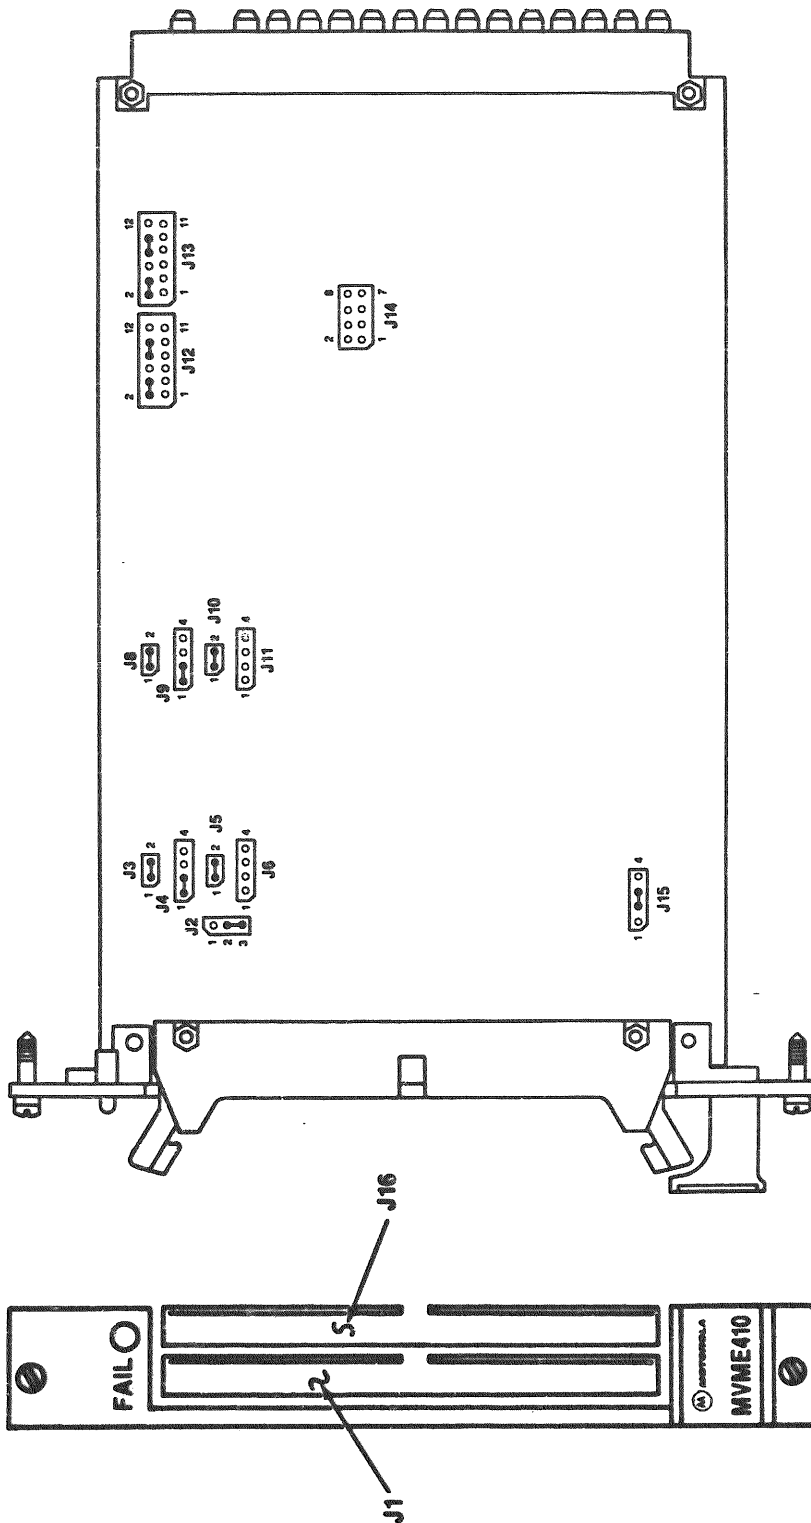

FIGURE 3-4. MVME410 Port 1 Printer Configuration
To connect the VME/10 to a Centronics-compatible printer, the MVME410 Dual Parallel Port Module jumper headers are prepared as listed in Table 3-2 and as shown in Figure 3-4. For specific details about the jumper header configurations, refer to the MVME410 Dual Parallel Port Module User's Manual, Motorola publication number MVME410.
- b. Refer to Table 3-2 and Figure 3-4 and configure the MVME410 I/O module jumper headers for port 1 printer operation and interrupt level 1.